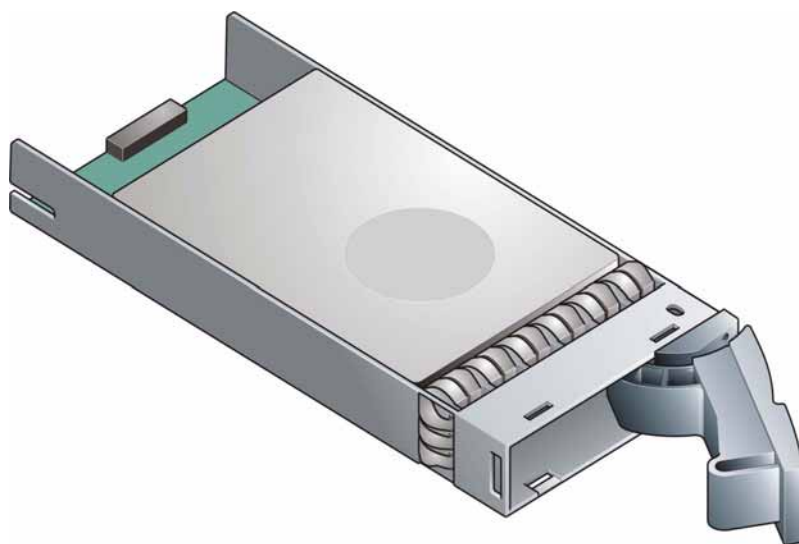

Figure 2-15 Installing a SATA Drive Carrier Module (1)
- 2 Release the carrier handle, by pressing the latch in the handle towards the right and insert the carrier into the enclosure (Figure 2-15).